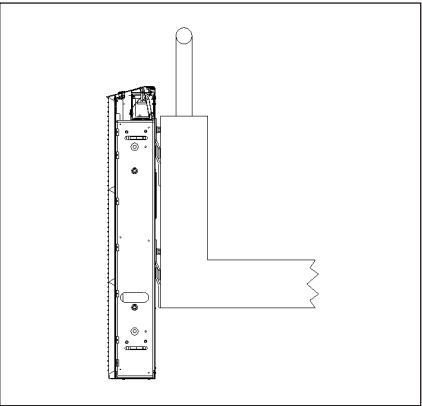

Figure 7: Display Attached to Wall
5. Ensure the section is plumb, level, and parallel to the wall. The alignment of the first section is crucial, as it determines the alignment of the entire display. Refer to **Figure 7**.